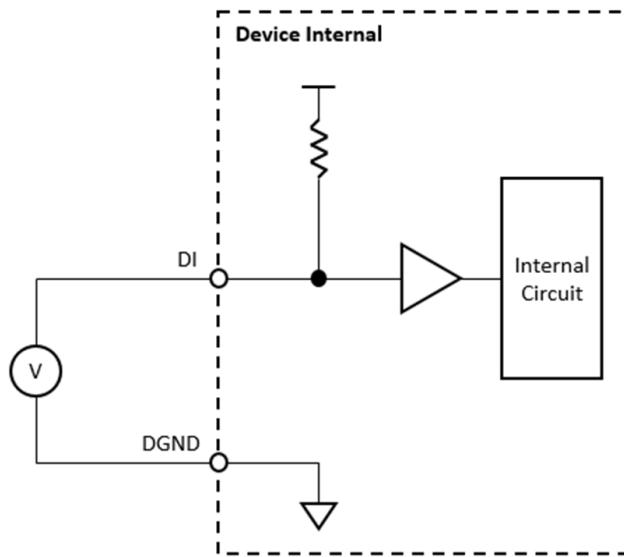

Figure 2.8 Digital input signal connection.
A digital input channel can perform digital input measurement. The voltage logic level between the digital input (DI) terminal and the digital ground (DGND) terminal is measured. To prevent undetermined or fluctuating results when input is floating, the digital input channel is internally pulled-up. This is shown in Figure 2.8.